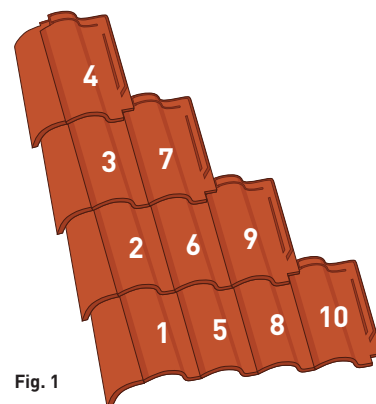

Fig. 1
3. See **fig.1** for sequence of installation for fist and succeeding courses of tiles from the eave to the ridge.